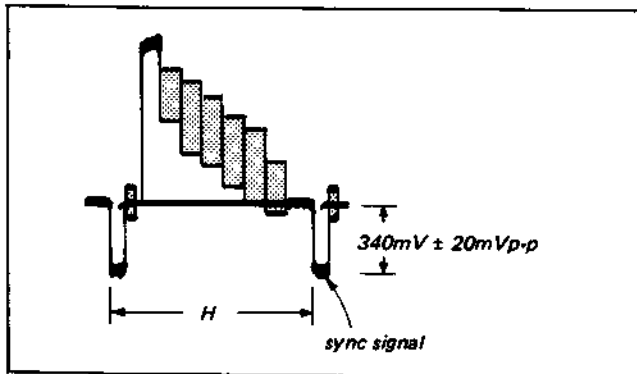

Fig. 4-16.
- (1) Supply the VTR with the colour bar signal and set up the E-E mode.
- (2) Connect the oscilloscope to TP8 (pin 24 of IC1). TRIG: EXT { TP28 (pin 6 of IC5) }
- (3) Adjust RV9 so that the colour bar signal is maximum.
- (4) Adjust RV1 so that the sync signal level is  $340mV \pm 20mV_{p-p}$ . (See Fig. 4-16.)